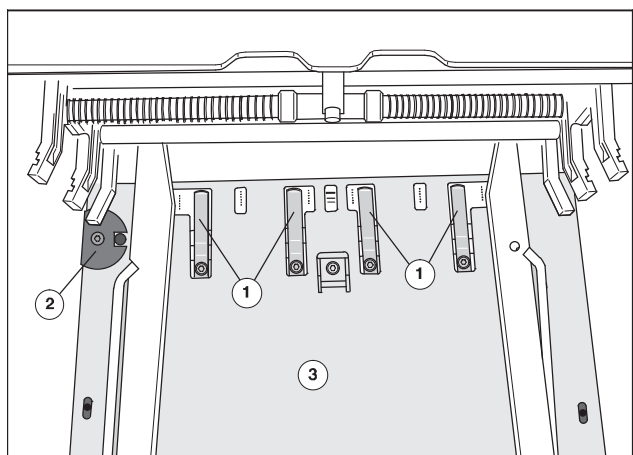
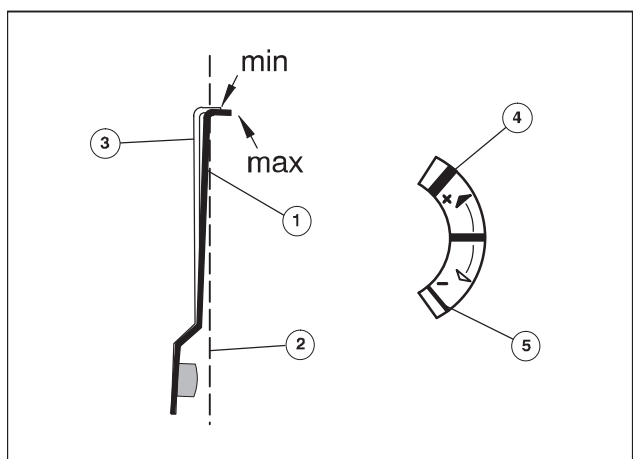

Fig. 5 Sheet separator fingers
Fig. 6 Adjusting sheet separator fingers
To ensure proper separation of the sheets, adjust the 4 sheet separator fingers (Fig. 5/1) on the front edge of sheet according to the printing material used (see also the table in Section "Paper travel settings" at the end of this chapter).
thin = Pos. "max"	Fig. 6/5: towards -, clockwise
thick = Pos. "min"	Fig. 6/4: towards +, anti-clockwise
1. Use the operator tool to adjust the locking disc (Fig. 5/2) to the printing material thickness. **Thicker sheets:** Move the springs away from the front edge of the sheet (Fig. 6/3), **thinner sheets:** position the springs against the front edge of the sheet (Fig. 6/1).
The sheet separator fingers (Fig. 6/1) may only protrude a certain distance in order that **the front edge of the pile** (Fig. 6/2) remains in contact with **the plate** (Fig. 5/3).